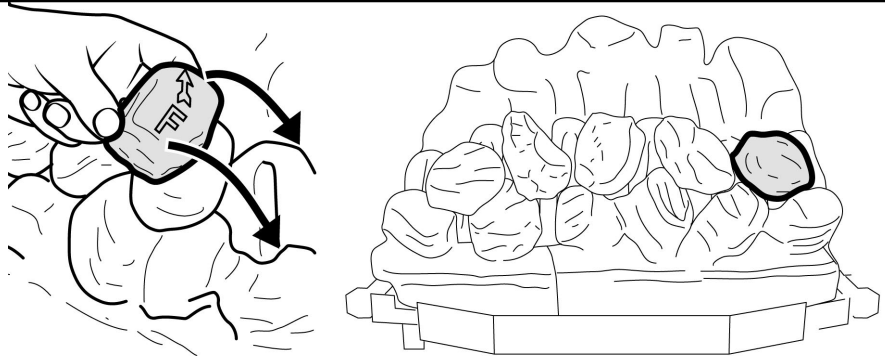

Figure 11. Second Row "Coal F"
**12.** Hold coal 'F' upright with the arrow pointing to the top. Locate coal 'F' as shown in figure 11.